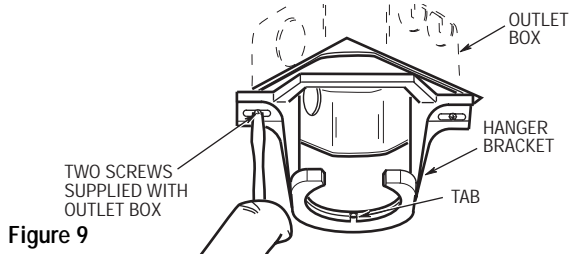
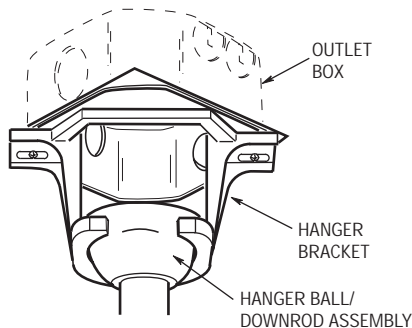

Figure 9
Figure 10
1. Securely attach the hanger bracket to the outlet box using the two screws supplied with the outlet box. (Figure 9.)
2. Carefully lift the fan and seat the hanger ball/downrod assembly on the hanger bracket that was just attached to the outlet box (Figure 10). Be sure the groove in the ball is lined up with tab on the hanger bracket (Figure 9).